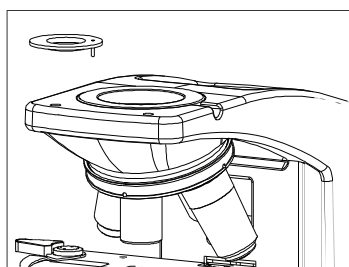
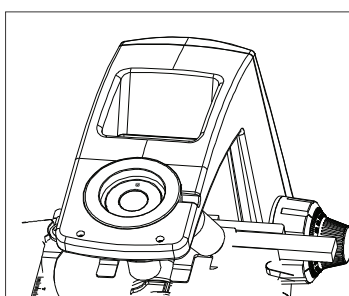

Fig. 7
Fig. 8
1. Remove the observation head from its position and install the analyzer by firmly placing the positioning pin of analyzer into the locating hole of dovetail adapter as shown in Figure 7 and Figure 8.